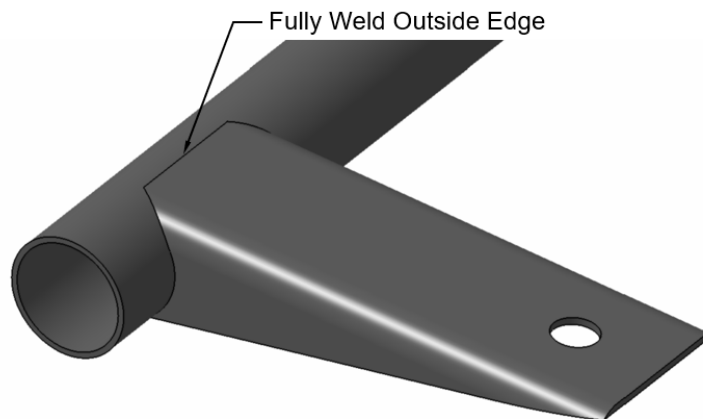

Figure B-43: Minimum weld length
- 5) Minimum Weld Length: At least the full outside face of the bracket must be welded to the supporting tube as shown in Figure B-43.